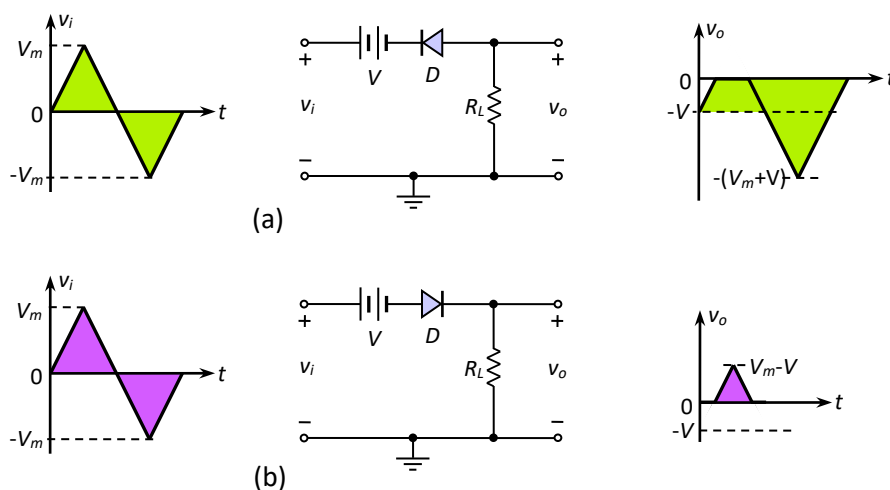

Fig.3-62: (a) Biased series positive clipper circuit, (b) Biased series negative clipper circuit
In these clipper circuits a DC voltage V , which is less than V_m , is used to forward bias or reverse bias the diode. Depending on the bias voltage polarity and the diode direction, total four combinations are possible. Here, two of them are shown in Fig.3-62, and described.
It is a **biased series negative clipper circuit**. Here, we will consider $0 < V < V_m$ and the operation will be described for an ideal diode. Look at the polarity of the bias voltage (V). It makes the diode forward biased. Hence, even for no applied voltage, that is, if the input terminals are short, the diode is still be forward biased and $-V$ amount of voltage will be available at the output. That's why the output waveform starts from $-V$ volt. Now, if the positive half-cycle of v_i appears, it will gradually decrease the forward bias voltage. It will be clear if we look at the polarity of the positive half-cycle and the polarity of the bias voltage- they oppose each other. For this reason, the output negative voltage will gradually decrease. When the value of v_i is equal to the bias voltage V , the resultant voltage across the diode will be zero, and hence, the diode will not conduct any current through the load. Thus, the output voltage will be zero as shown in v_o of Fig.3-62(a). If the value of v_i exceeds V , the diode will be reverse biased by $(v_i - V)$ volts, and no output again. Thus, the output will be zero as long as $v_i > V$. During the falling edge of the positive half-cycle, when $v_i = V$ the diode starts to conduct again, and we will get negative output voltage. During the negative half-cycle of the input, v_i will be added with V and will bias the diode in forward direction. As we have considered an ideal diode, the total voltage $(-v_i - V)$ will appear across the load. Thus, negative output will be available from $v_i = V$ up to $v_i = -V_m$. For this reason the negative peak will be $-V_m - V = -(V_m + V)$, which is shown in output waveform of Fig.3-62(a).
and output voltage will be found. For the negative half-cycle, v_i will be added with V , and the diode remains completely reverse biased. So no output is found. In summary, we can say that the output will be found only for $V_i - V$ portion of the positive half-cycle as shown in Fig.3-62(b).